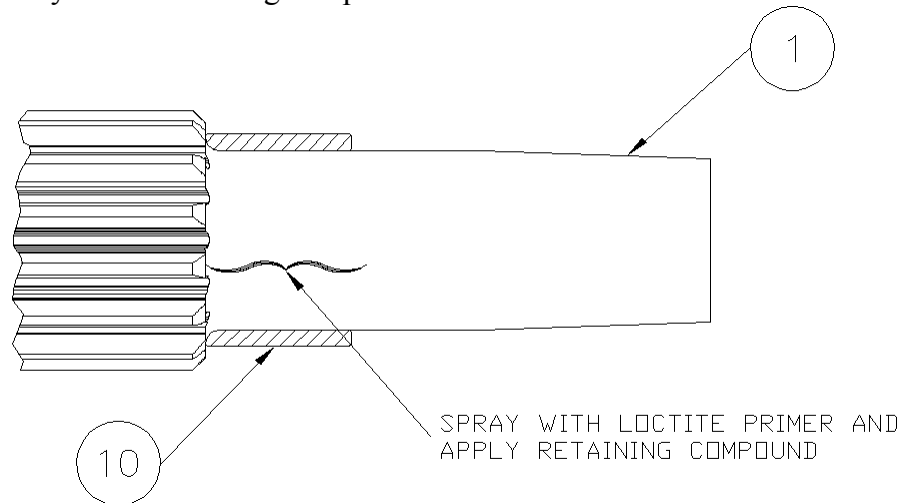

figure A-4
4. Thoroughly clean the pinion shaft (1) (fig. A-4) and inner races (10) with a mild solvent and dry completely. Spray the inner race contact area (shown in figure A-4) at each end of the pinion shaft and the inside diameter of the inner races thoroughly with *LOCTITE 7649 N PRIMER*. Apply *LOCTITE RETAINING COMPOUND 609* around the pinion shaft at contact area and the inside diameter of the inner races. Slide the inner races (10) on the pinion shaft until the races seat against the gear teeth. After the races seat against the gear teeth, twist the races on the pinion 360° to spread the retaining compound evenly. Wipe off any excess retaining compound.